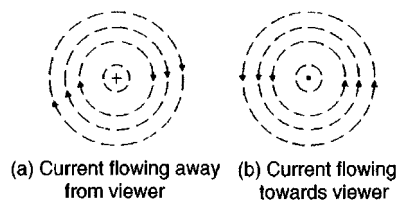
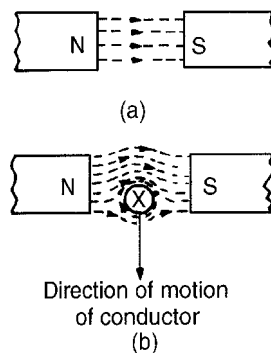

Figure 8.3
Figure 8.13
When dealing with magnetic fields formed by electric current it is usual to portray the effect as shown in Fig. 8.3. The convention adopted is:
- (i) Current flowing away from the viewer, i.e. into the paper, is indicated by \oplus . This may be thought of as the feathered end of the shaft of an arrow. See Fig. 8.3(a).
- (ii) Current flowing towards the viewer, i.e. out of the paper, is indicated by \ominus . This may be thought of as the point of an arrow. See Fig. 8.3(b).
For example, with current flowing away from the viewer (Fig. 8.3(a)) a right-hand thread screw driven into the paper has to be rotated clockwise. Hence the direction of the magnetic field is clockwise.
If the current-carrying conductor shown in Fig. 8.3 (a) is placed in the magnetic field shown in Fig. 8.13(a), then the two fields interact and cause a force to be exerted on the conductor as shown in Fig. 8.13(b). The field is strengthened above the conductor and weakened below, thus tending to move the conductor downwards. This is the basic principle of operation of the electric motor (see Section 8.4) and the moving-coil instrument (see Section 8.5)